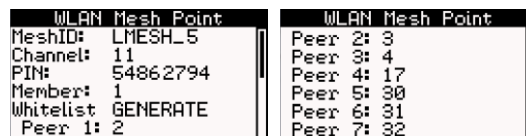

Figure 8: Mesh Point Setup on the LCD Display.
- **WLAN Mesh Point:** This menu allows configuring the Mesh point (see Figure 8). The Mesh ID can be chosen, a radio channel, PIN, and Mesh point ID can be selected. It is also possible to configure the whitelist entries. When choosing **GENERATE**, a default whitelist is generated depending on the Mesh point ID. When saving these settings, the WLAN Mesh point mode is activated on this wireless interface.